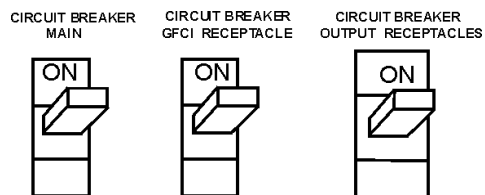

Figure 58. Main and GFCI Circuit Breakers
16. Turn the MAIN, GFCI and LOAD circuit breakers to their "ON" position (Figure 58).